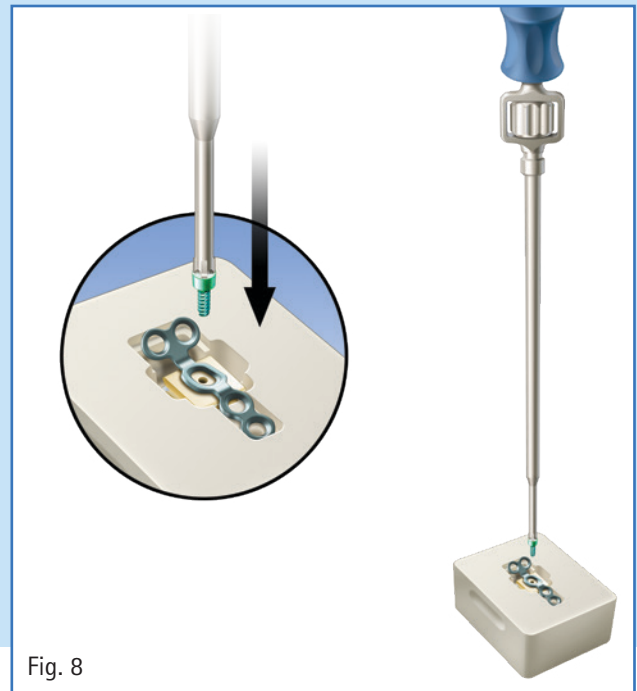

Fig. 8
- B. Placing the allograft in the preparation device, attach the plate to the allograft by inserting the self-tapping allograft center screw. (A center hole will need to be pre-drilled in the allograft.) Allograft choices are 4 mm, 6 mm, 8 mm, 10 mm, and 12 mm (Fig. 8).